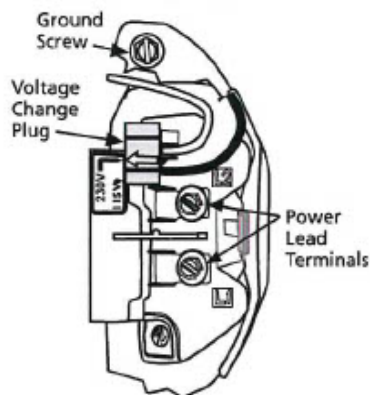

Figure 6 – Voltage set to 230 volts, Plug Type
1. Connect ground wire first. Connect the ground first, then to green grounding terminal provided under motor canopy (see Figures 6 and 7) identified as GRD. Make ground connection to this terminal. **Do not** connect motor to electrical power supply until unit is permanently grounded; otherwise serious or fatal electrical shock hazard may be caused.